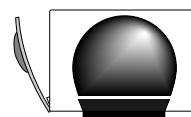

fig. 1
- **Always leave the door open to the stop position** (as shown in the figure 1).
When the function and the temperature controls are set to BROIL only the top element heats at full power. Be sure to leave door open to stop position only, as shown in the figure 1 on page 14. Set the broiling rack in the drip pan on the wire shelf in position 2 or 3 (see pag. 7) so that the food is few inches from the top element. For thick foods such as chicken parts place the shelf in position 1. If necessary, the broiling rack can be inverted in the pan. The broiling rack shields the fat drippings from direct heat, reducing spattering, smoking and possible flaming. Always use the shallow pan when broiling any fatty foods.